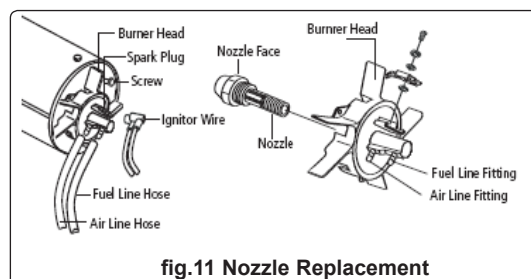

fig.11 Nozzle Replacement
- 6.6.2. Remove the burner head and remove the nozzle (fig.11).